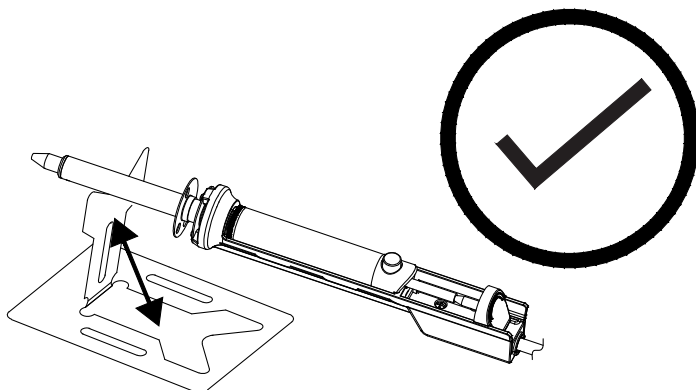

Fig. 2 - Correct storage of De-Soldering Iron when not in use
- While in use do not stand or store De-Soldering Iron on its side. De-Soldering Iron could tip resulting in contact between hot tip and flammable materials. Always set/store De-Soldering Iron on metal stand provided (Fig. 2)
5. Connect De-Soldering Iron to mains current and place on the metal stand provided (Fig. 2).
18. Place De-Soldering Iron on Metal Stand provided on its side with the tip away from working area (Fig. 2)